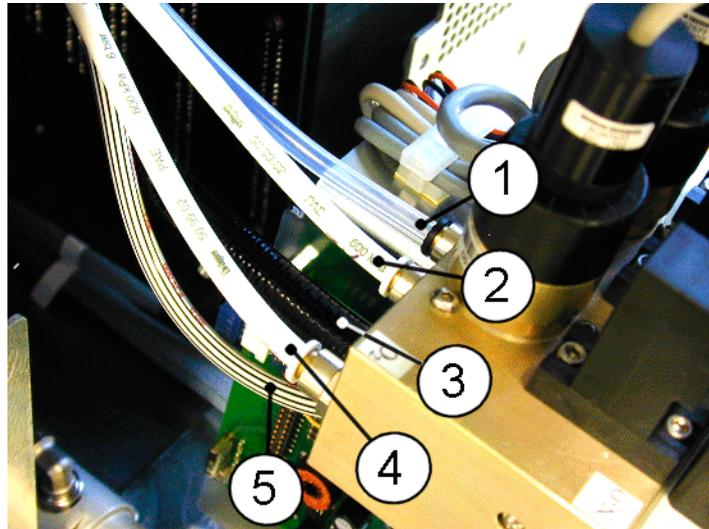

Figure 20 Allocation of the hoses
- Disconnect all hoses from the valve block (Figure 20).